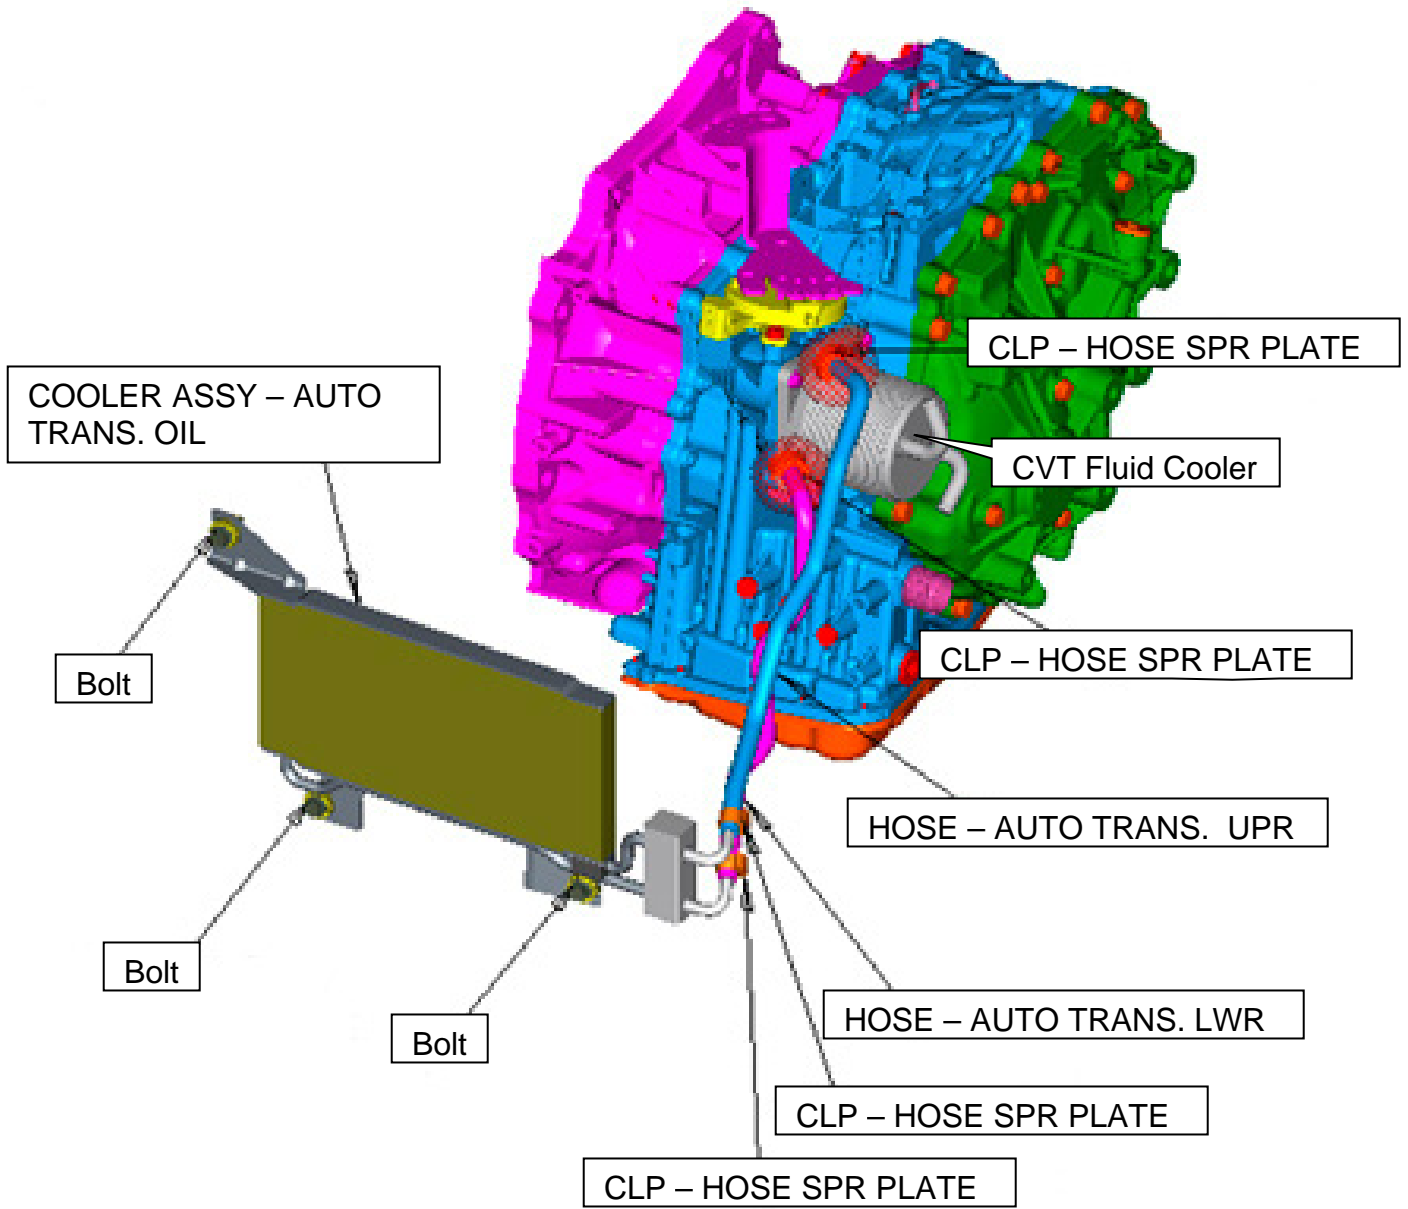

Figure 14
**NOTE:** Figure 14 on page 8 shows an overview of the external CVT cooler and hose routing.
Figure 14 shows overview of external CVT cooler and hose routing.
- See Figure 14 for hose routing.